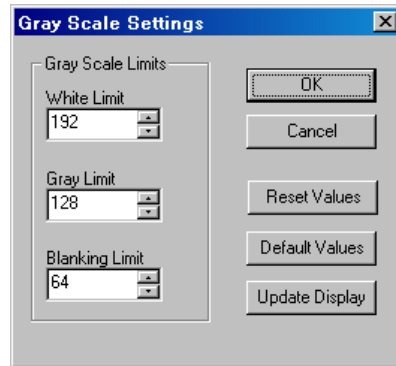

Figure C-2: Gray Scale Settings dialog box
Gray Scale Settings Dialog Box. The Gray Scale Settings dialog box (see Figure C-2) appears when you click the **Gray Level** command.
3. Select **Gray Level** from the **Settings** pull-down menu to open the Gray Scale Settings dialog box shown in Figure C-2 on page C-7.